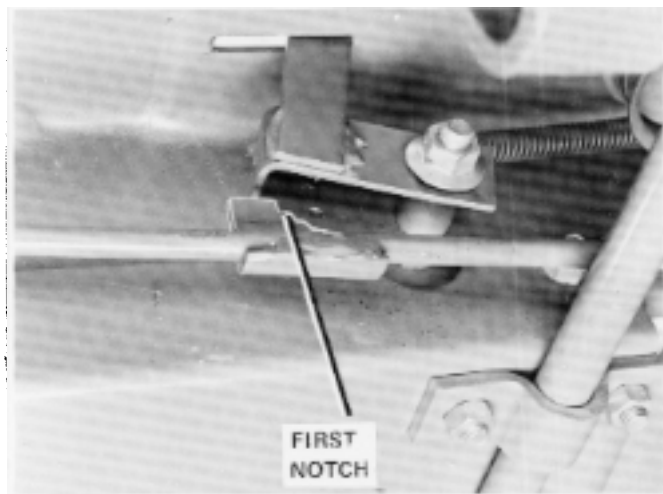

Fig. 5-3 B-Series Parking Brake Lever
1. Depress the foot brake and set parking brake in the first notch. See Fig. 5-3.